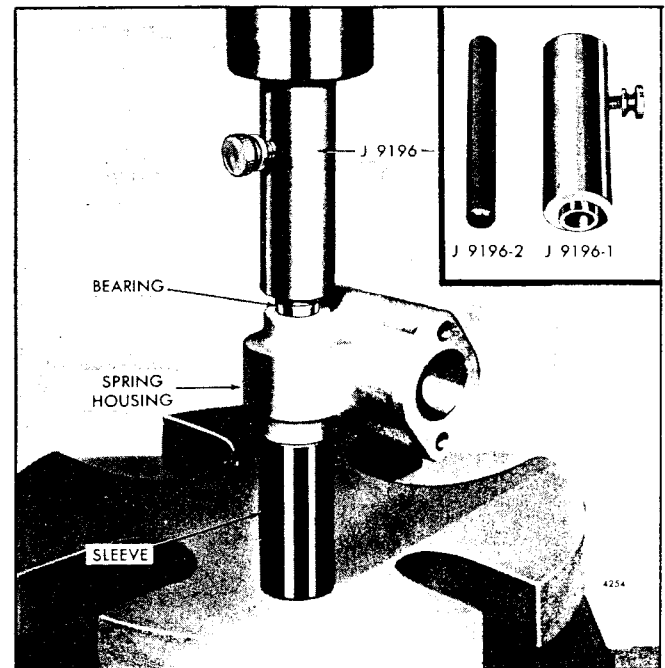

Fig. 8 - Installing Speed Control Shaft Bearings in Spring Housing
3. Place the pilot rod end of the bearing installer assembly in the bearing. Support the spring housing, bearing and installer on a short sleeve on the bed of an arbor press as shown in Fig. 8, then press the bearing in the housing until the shoulder on the installer contacts the housing.
10. Remove the bearing pilot rod J 9196-2 from the installer body J 9196-1 and place the installer body over the end of the shaft and against the bearing. Support the spring housing, bearings and installer on a short sleeve on the bed of an arbor press as shown in Fig. 8, then press the bearing in the housing until the shoulder on the installer contacts the housing.